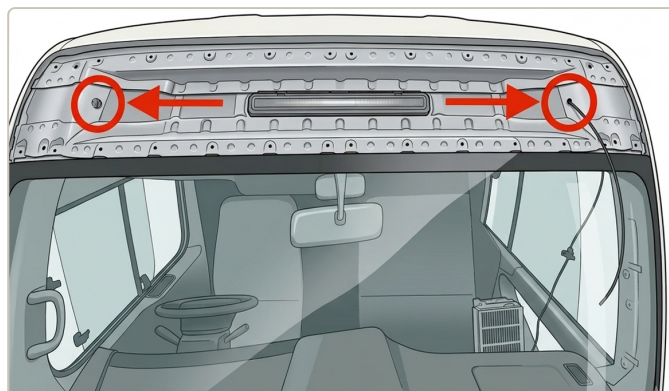

Fig. 2 — After removing plastic trim above windscreen, run cables through these grommets
1. Remove the black plastic trim above the windscreen, see Fig 2.